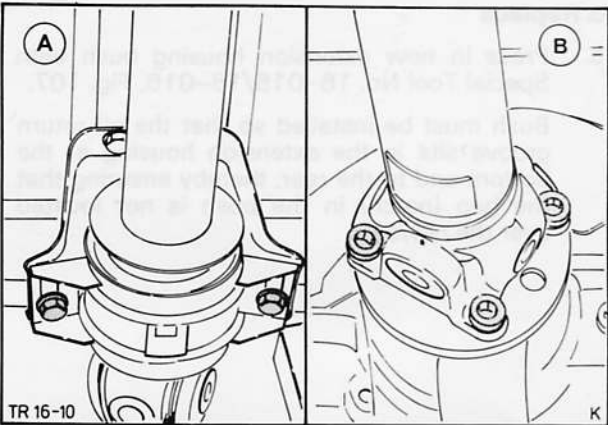

Fig. 104. Driveshaft mountings – rear axle flange and centre bearing
1. Drive vehicle over a pit or onto a ramp and detach driveshaft from rear axle flange (4 bolts), Fig. 104.
2. Disconnect driveshaft centre bearing (2 bolts), Fig. 104. Draw shaft complete from extension housing, placing oil tray underneath.